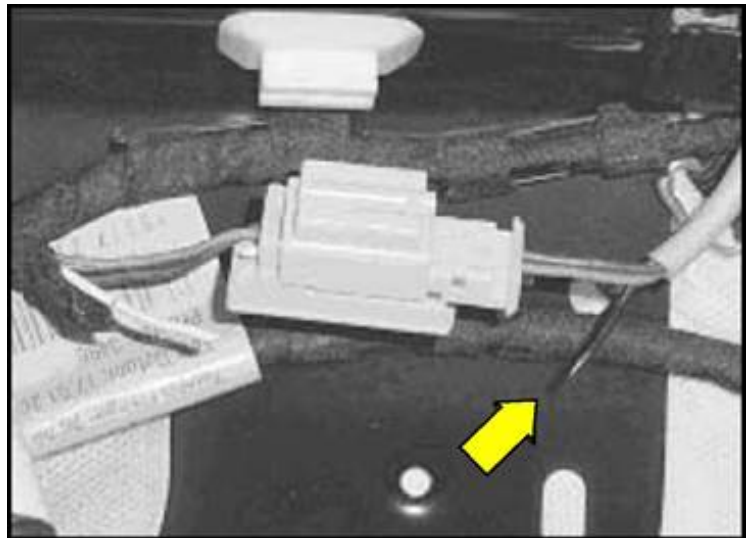

Figure 2. Igniter wire 1 on airbag side.
4. Cut igniter wire 1 (on airbag side) next to airbag connector (Figure 2).